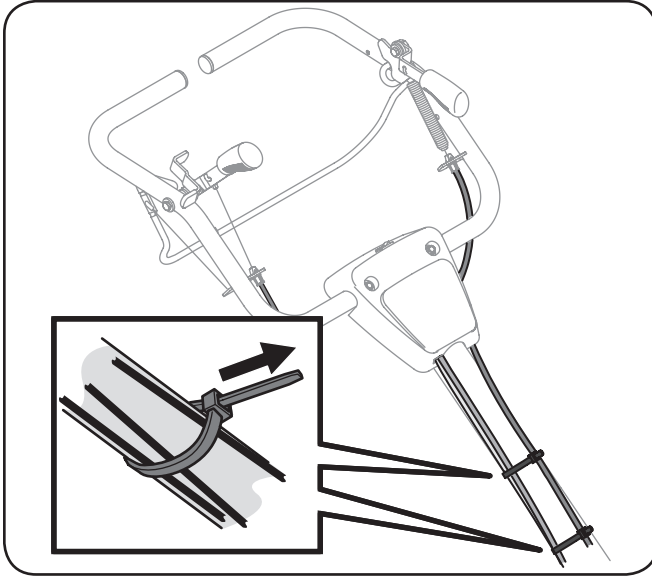

Figure 3-7
13. Feed the forward and reverse cables through the slot on the right side of the panel and secure the wires and cables to the handles by using the two cable ties from the hardware pack as shown in Figure 3-7.